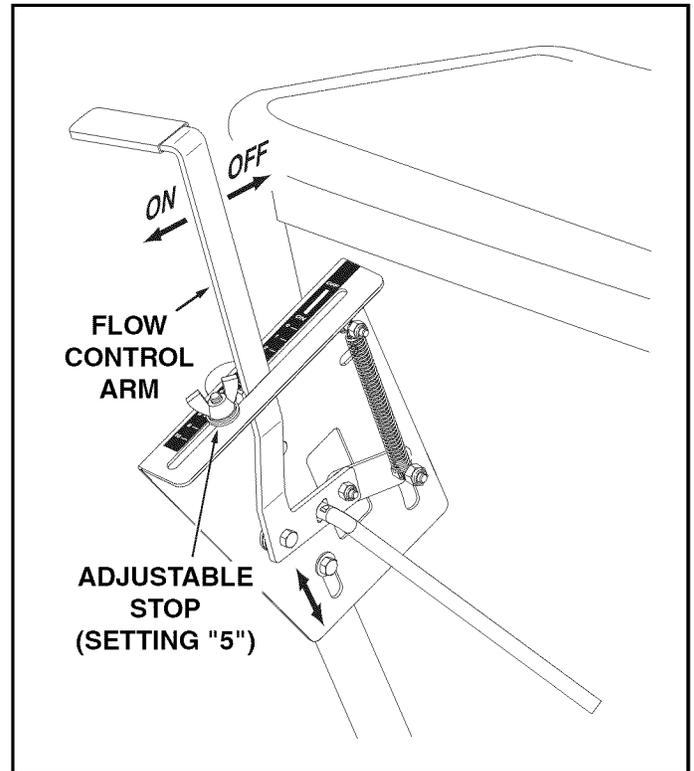

FIGURE 9
STEP 9: (SEE FIGURE 9)
(Refer to figure 9 on page 6.)